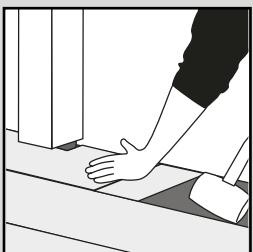

Fig. 6
- Under door frames: If plank/tile cannot be lifted use an adapted tapping block (off-cut of material) and mallet to carefully tap the plank/tile together flat on the floor (Fig. 6).